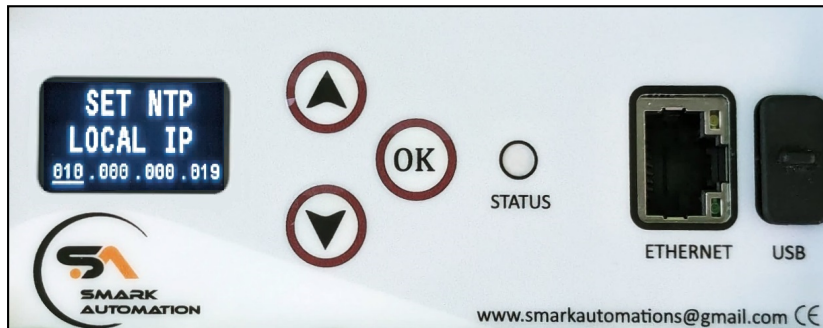

Figure 16: Configuring Local NTP IP
- **Local NTP:** Select this option to sync with a Local NTP server. The user will need to enter the IP address of the Local NTP server. Once the IP address is entered, as shown in Fig 16, the user will be prompted to select the GMT Shift, as chosen for Internet Time. A confirmation message will then appear: "Saving Time Config".